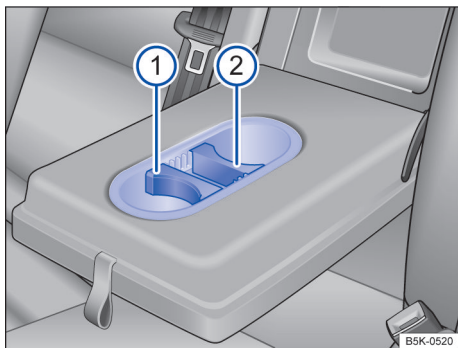

Fig. 137 Cup holders in the rear center armrest (version 2).
- Some cup holders have inserts that can be positioned to hold beverages of different sizes → fig. 137. *To adjust* the cup holder to the size of the cup, pull the inserts ❶ or ❷ upward and reposition them to fit the size of the cup.